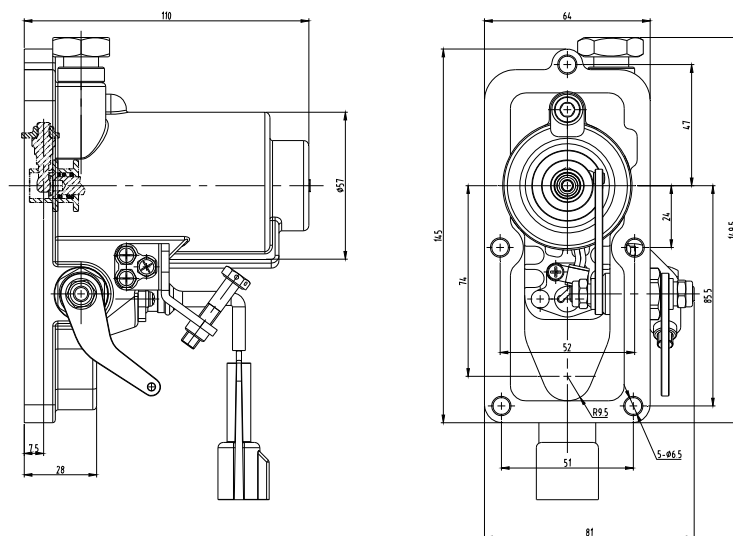

Figure 2.3
2.2.2 The Outline Overall and Installing dimensions of A07A Electromagnetic actuator (See Figure 2.3)